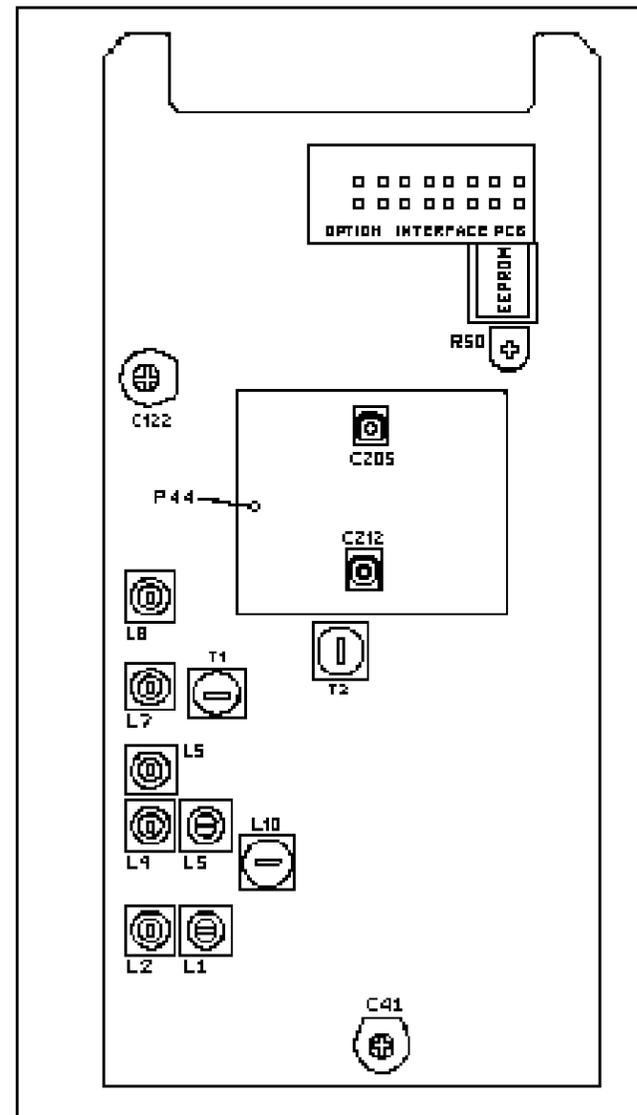

Figure 6 - Location of Controls and Adjustments.
- Connect the power supply to the battery terminals of the radio (battery removed). As you proceed with the alignment procedure, ensure that the power supply voltage remains at 10.8 Vdc measured at the radio, not the power supply. Refer to Figure 6 for location of adjustment and tuning controls.